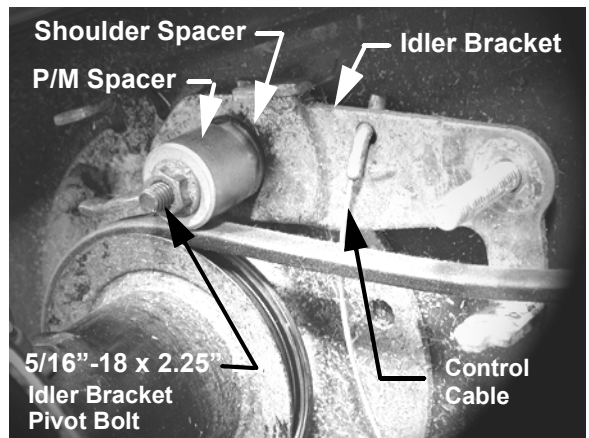

Figure 5
- 13. Refer to Figure 5. Place the Idler Bracket onto Idler Bracket Pivot Bolt.
17. Install supplied "V" belt, 754-0625A, in the reverse sequence as stated in Step 5, Idler Pulley and Idler Keeper, removed in Step 5A, and tighten securely. Ensure belt is routed correctly around engine, idler and spindle pulleys. Ensure the Control Cable is positioned in the Idler Bracket as shown in Figure 5.